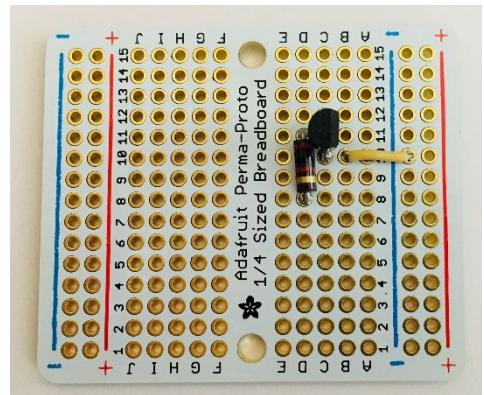

Figure 58 Breadboard with resistor, transistor, and jumper wire soldered
- Trim the excess wire from the underside. See Figure 58 for the results of this step.